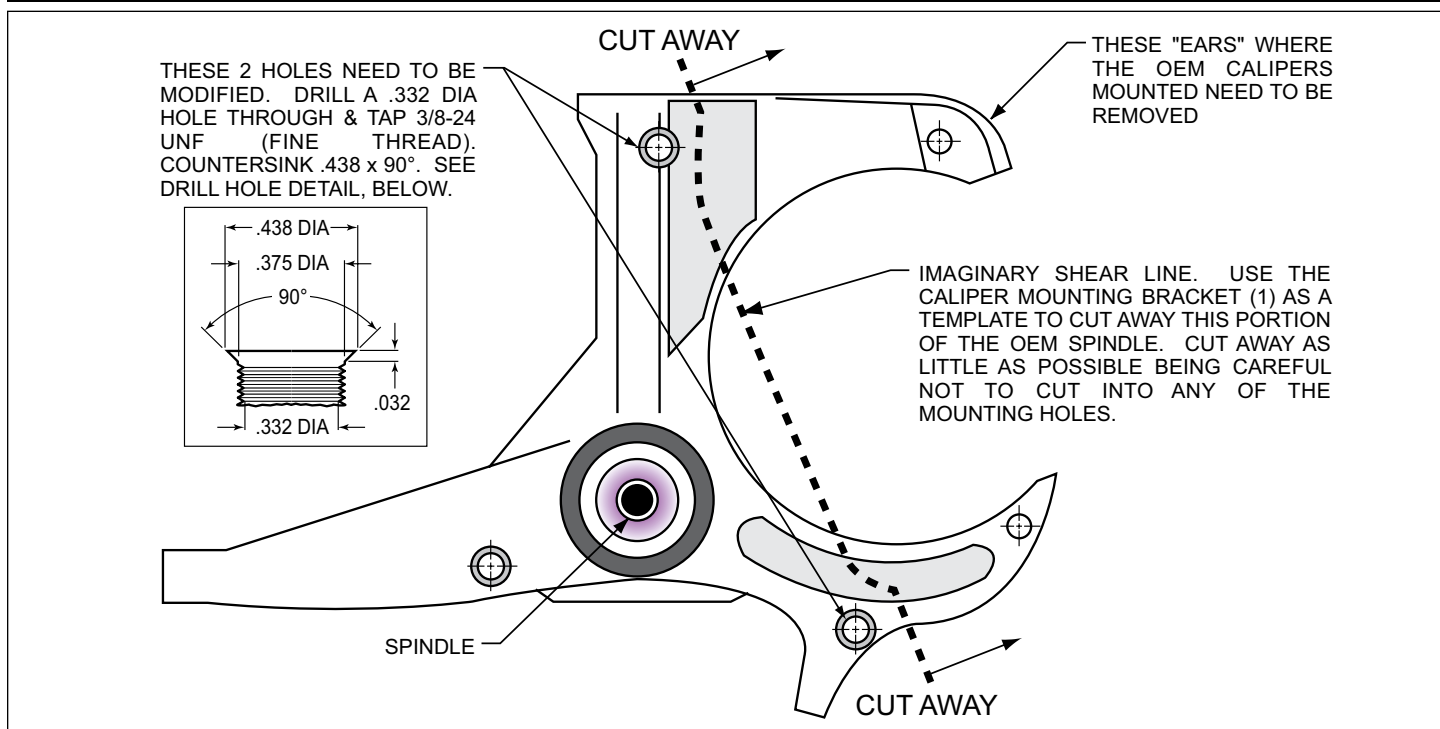
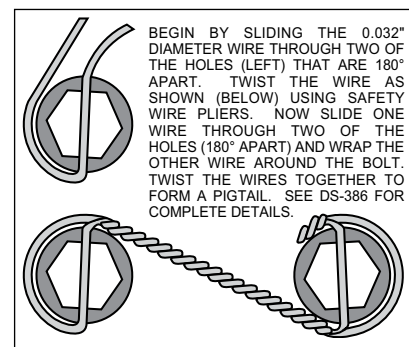

Figure 1. Steering Arm / Spindle Modifications
Figure 4. Safety Wire Diagram
These modifications should be performed by a qualified machinist. Refer to Figure 1 on the following page as necessary (numbers in parenthesis refer to the parts list on page three). Only one view of the steering arm/spindle is shown, but the modifications need to be performed on both steering arm/spindles.
The two stock holes that will be used to mount the caliper mounting bracket (1) need to be modified (figure 1). Drill a .332 diameter hole through both holes, then tap 3/8-24 UNF (fine thread). Countersink the holes to .438 x 90°. The “ears” that protrude to form a “C” shape need to be removed to facilitate the installation of the Wilwood caliper (22). Using the caliper mounting bracket (16) as a template, mark two cut marks on the steering arm. Remove as little as necessary from the “C” shape, being careful not to cut away any of the mounting holes required to bolt on the caliper mounting bracket (1).
- Install five new wheel studs (3) into the hub (4). Torque to 77 ft-lb. **NOTE:** There are two five lug patterns in the hub (5 x 4.50 and 5 x 4.75). Make sure of the correct hole pattern for the correct wheel application before installing studs into hub.
- Pack the large inner bearing cone (5) with high temperature disc brake bearing grease (available from your local auto parts store) and install into the backside of the hub (4).
- Install the grease seal (6) by pressing into the backside of the hub (4).
- Pack the small outer bearing cone (12) with high temperature disc brake bearing grease and install into front side of the hub (4). Slide the hub assembly (4, 5, 6 and 12) onto the spindle. Secure using spindle washer (13), stock adjusting nut, and nut locking device. Adjust wheel bearing pre-load per Original Equipment Manufacturer (OEM) specifications.
- Install the O-ring (14) and the dust cap (15) into the hub (4). **NOTE:** O-ring (14) friction will not allow cap (15) to unscrew on its own.
- With the larger I.D. side of the rotor (7) facing away from the hat (8), bolt rotor (7) to hat (8) through the backside of the rotor using washers (9) and bolts (10). Apply red *Loctite*® 271 to the bolt threads and torque to 155 **in-lb** using a criss-cross pattern. For an added measure of security, the bolts may be safety wired using standard 0.032 inch diameter stainless steel safety wire as shown in Figure 4. Please refer to Wilwood's data sheet DS-386 (available at [www.wilwood.com/Pdf/DataSheets/ds386.pdf](http://www.wilwood.com/Pdf/DataSheets/ds386.pdf)) for complete safety wire installation instructions.
- Slide the rotor/hat assembly over the studs (3) in the hub (4) taking care to align the small countersunk holes in the hat (8) with the small threaded holes in the hub (4). Install three flat head socket head screws (11) through the small holes in the hat (8) and torque to 85 **in-lb**. Check to be sure the hat seats squarely against the hub face.
- NOTE:** Please reference the caution statement at the beginning of the assembly instructions. The caliper mount brackets (16) should be installed first with clean, dry threads on the mounting bolts (17). Place sleeve (19) into the holes on the radial mount caliper bracket (16). Install the radial mount caliper bracket (16) on the backside on the flat caliper bracket (1) by sliding bolt (17) through washer (18) and through the bracket holes. Place spacer (20) and shim washer (21) between the two brackets and screw bolt (17) into insert nut on the flat caliper bracket (1). Finger tighten bolt (17). Use one thin shim (21) between the two brackets (1 and 16) during initial trial fitting.
- NOTE:** This kit contains distinct right and left hand calipers that must be mounted in a specific direction, as described below. Initially place two .030" thick shims (24) on each stud (23) as shown in Figure 1. Mount the caliper (22) onto the bracket (16) using lock nuts (26) and washers (25), Figure 1. Ensure that the caliper is mounted so that the largest pistons are at the rotor exit end of the caliper, in relation to the direction of rotor rotation. Temporarily tighten the lock nuts.
- View the rotor (7) through the top opening of the caliper (22). The rotor (7) should be aligned in the center of the caliper (22). If not, adjust the radial mount caliper bracket (16) by using shims (21 and/or 28) placed between the two brackets (1 and 16). Add as many shim washers (21 and/or 28) as necessary to achieve the correct alignment. Always use the same amount of shims on both the top and bottom radial mount caliper mounting bolts (17). Finger tighten and recheck alignment, adjust as necessary. Apply red *Loctite*® 271 to bolt threads (17) and torque to 47 ft-lb.